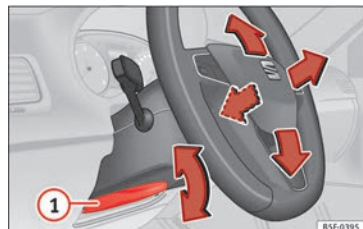

Fig. 19 Lever in the lower left side of the steering column.
- Adjusting the position of the steering wheel: Pull the » Fig. 19 ① lever down, move the steering wheel to the desired position and lift the lever back up until it locks.